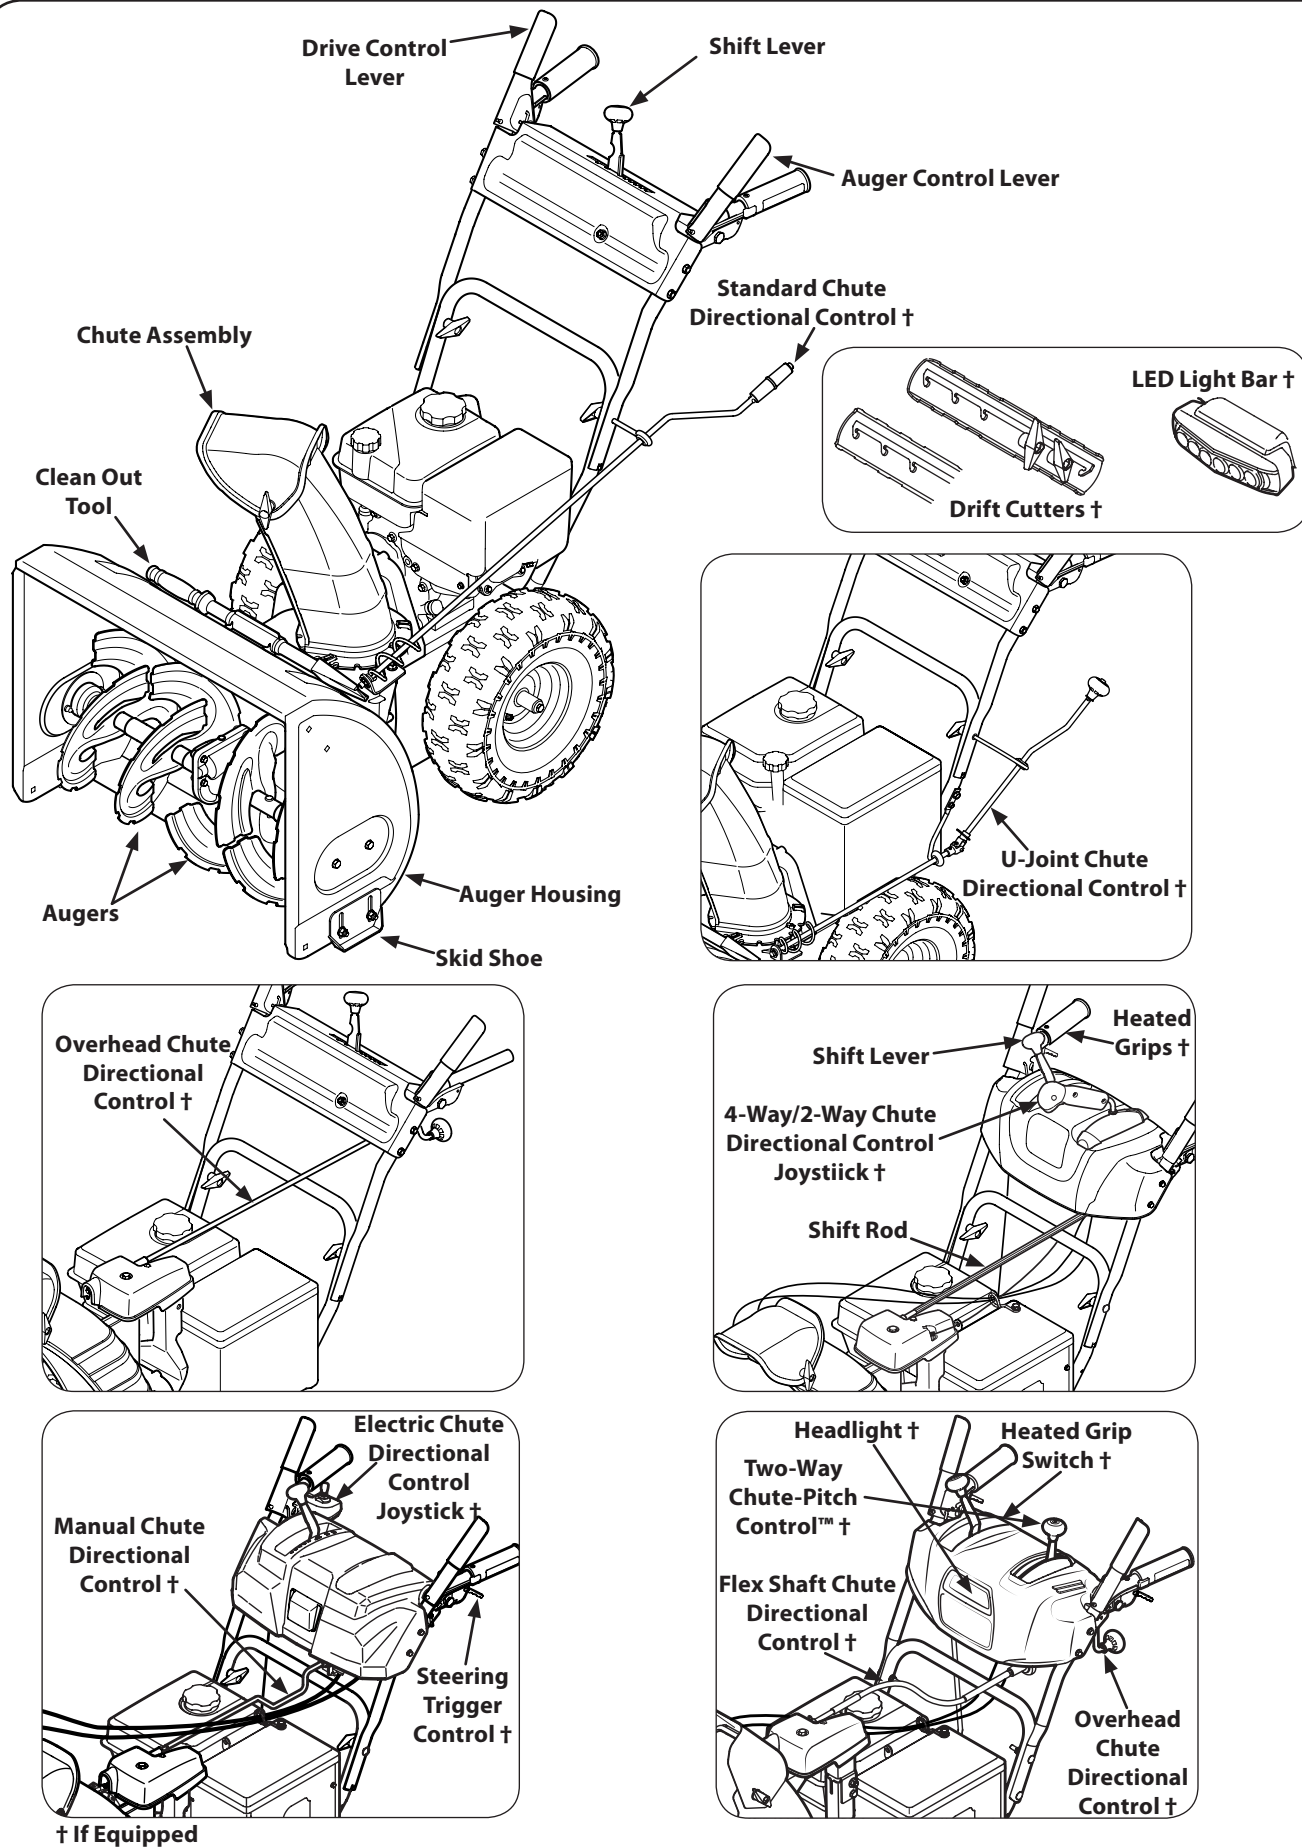

Figure 3-1
**NOTE:** Upper chutes on models with Four Way and Electric Chute Directional Control are controlled by the Four Way/Electric Chute Directional Control Joystick. See Figure 3-1.
Snow thrower controls and features are described below and illustrated in Figure 3-1.